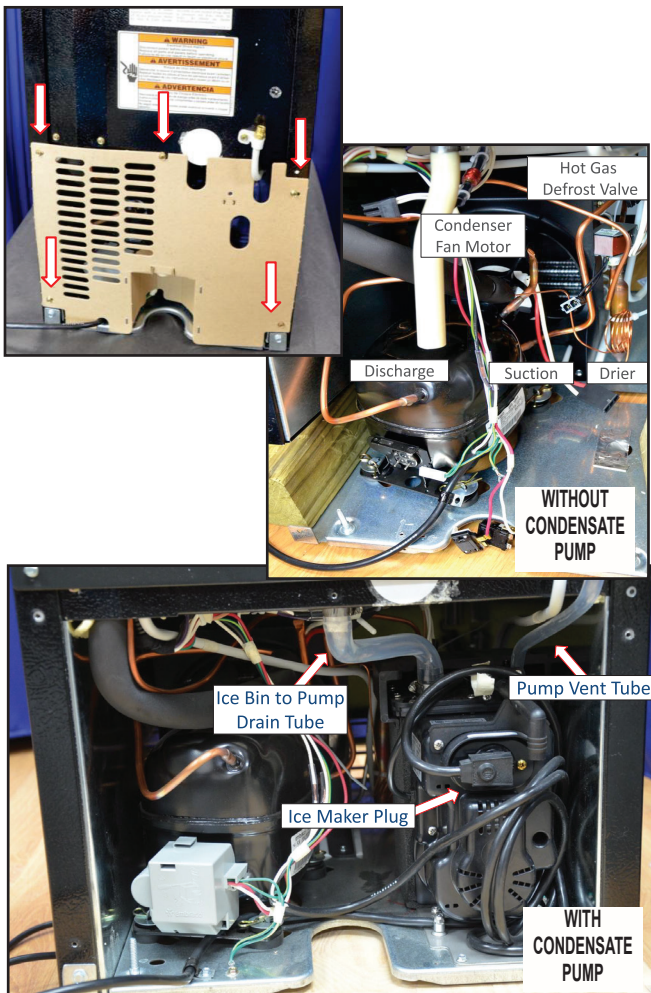

FIGURE 27
- Remove screws and cover to access machine compartment components. See *Figure 27*.